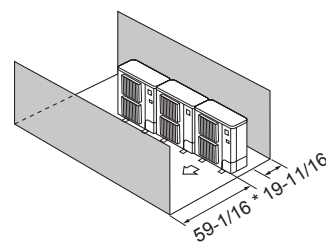

Fig. 2-14
④ Obstacles at front and rear (Fig. 2-14)